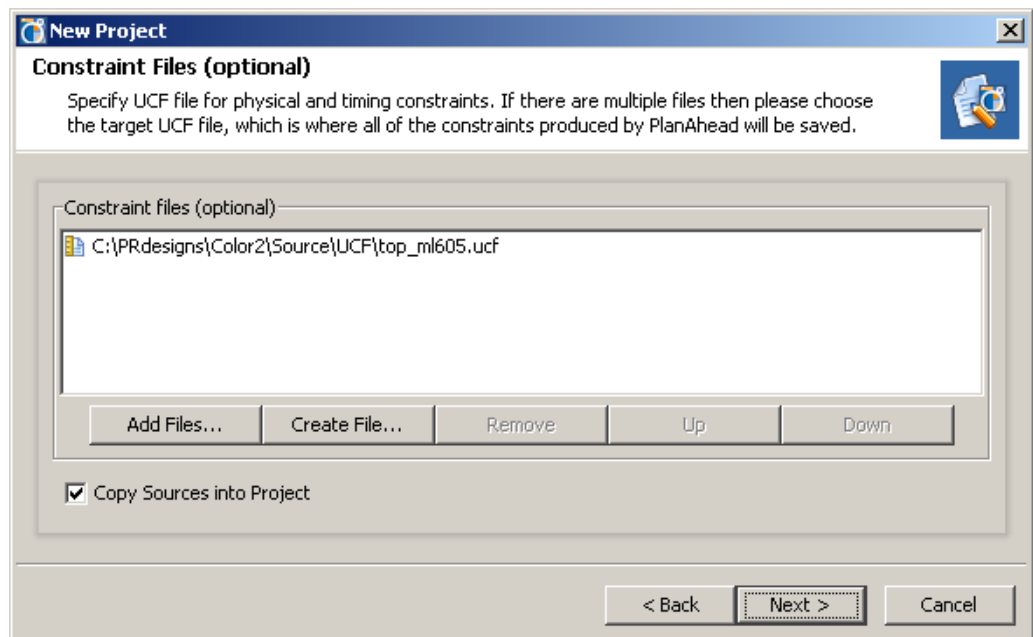

Figure 4-3: Constraints Files Dialog Box
4. Add the top-level constraints files, which should include IO and Timing constraints. More than one UCF can be used. The PlanAhead software concatenates all top-level UCF files along with module-level UCF files before launching implementation runs. Figure 4-3 displays the **New Project > Constraint Files** dialog box.